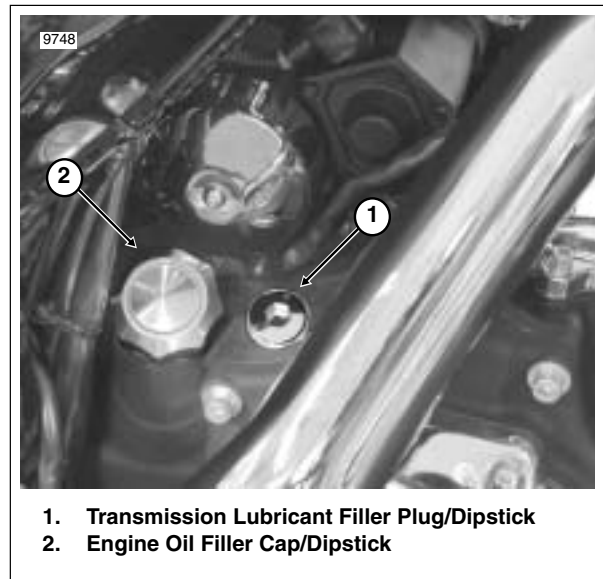
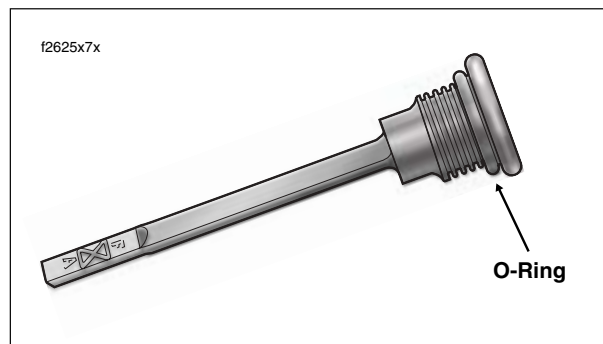

Figure 1-11. Transmission Case (Right Side)
Figure 1-12. Transmission Lubricant Filler Plug/Dipstick
1. Remove the transmission lubricant filler plug from the right side of the transmission case. See Figure 1-11. Inspect the O-ring for cuts, tears or general deterioration. Replace the O-ring if necessary. See Figure 1-12.
6. With the motorcycle resting on the jiffy stand on level ground, insert the filler plug into the fill hole so that it is resting on the threads. Do not screw the filler plug into the fill hole. Remove the filler plug and note the level of the lubricant on the dipstick. Lubricant level should be between the A(dd) and F(ull) marks. See of Figure 1-12.